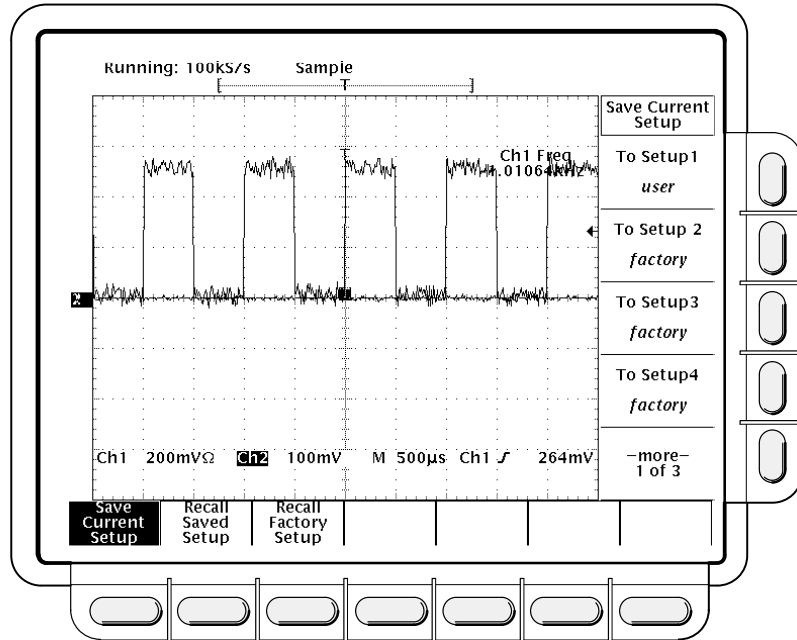

Figure 1-18: Save/Recall Setup Menu
6. Press **SETUP** → **Save Current Setup** (main) (see Figure 1-18).